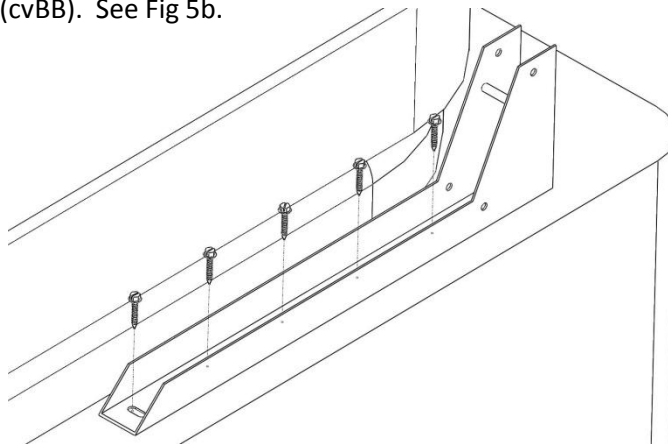

Figure 5b
- b. Mount the Channel Bracket (cvBB) to the decking using at least 4 of the 5 supplied Lag Screws (cvA), make sure to leave room for the cover and the vinyl skirt to fit between the acrylic and the Channel Bracket (cvBB). See Fig 5b.